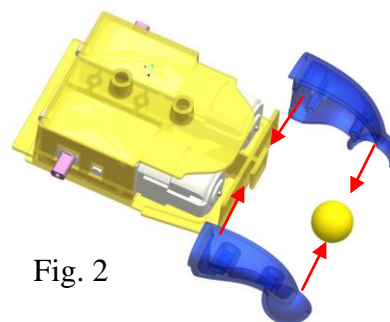

Fig. 2
1. Attach the tail part (1) to the Gearbox (13). The tail ball (4) is held in the socket at the end. (Fig. 2)